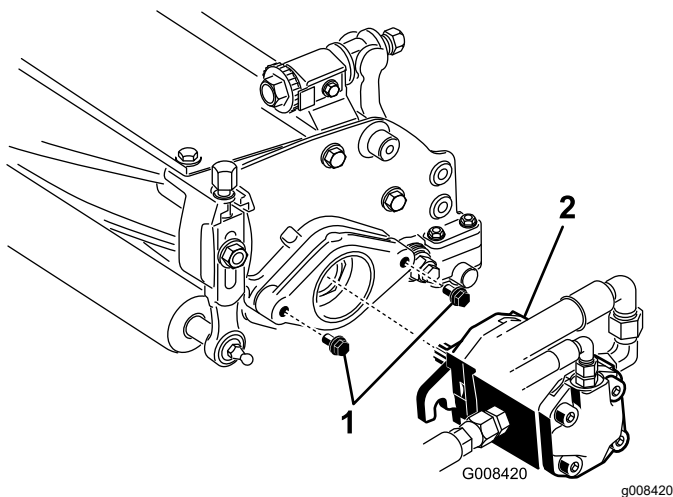

Figure 9
7. Ensure that there is approximately 13 mm (1/2 inch) of the threads exposed on each reel-drive-motor mounting bolt (Figure 9).
8. Coat the motor spline shaft with clean grease and install the motor by rotating the motor clockwise so that the motor flanges clear the studs. Rotate the motor counterclockwise until the flanges encircle the studs (Figure 9).
9. Tighten the mounting bolts (Figure 9).